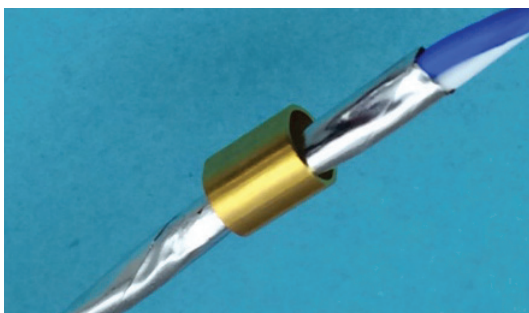

Figure 57: Adding ferrule on pair
17. Slide an oval ferrule onto each shielded pair (Figure 57).